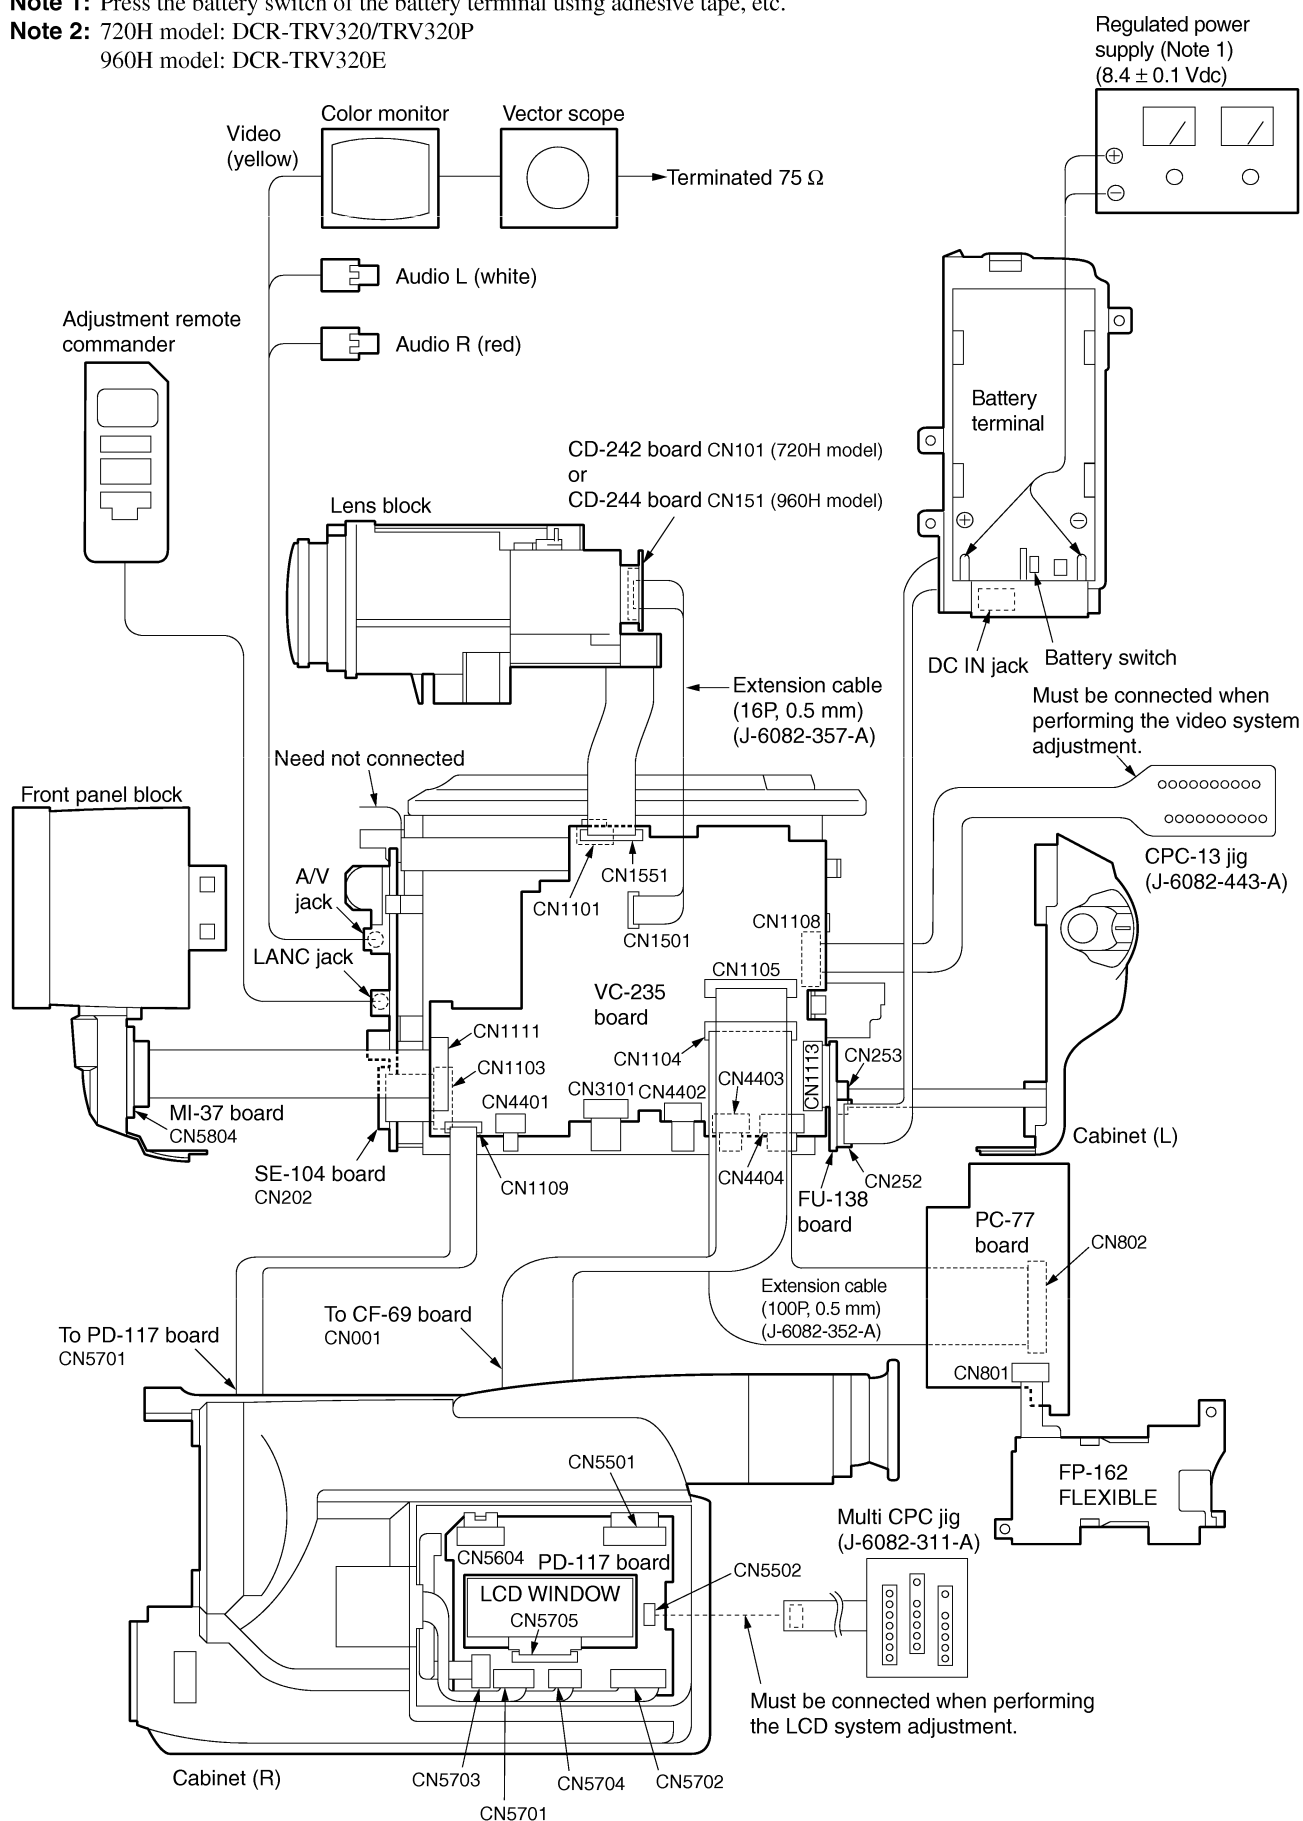

Fig. 5-1-3
- 1) Connect the equipment for adjustments according to Fig. 5-1-3, 4.